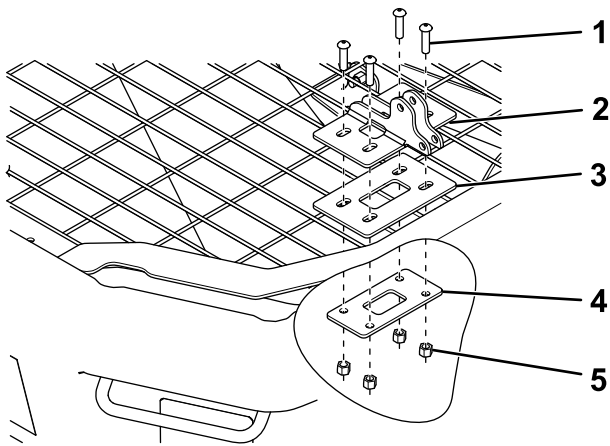

Figure 16
- For VBX 8000 spreaders, use 4 bolts (3/8 x 1-1/2 inches), 1 spacer plate, 1 clamp plate, and 4 nuts (Figure 16).